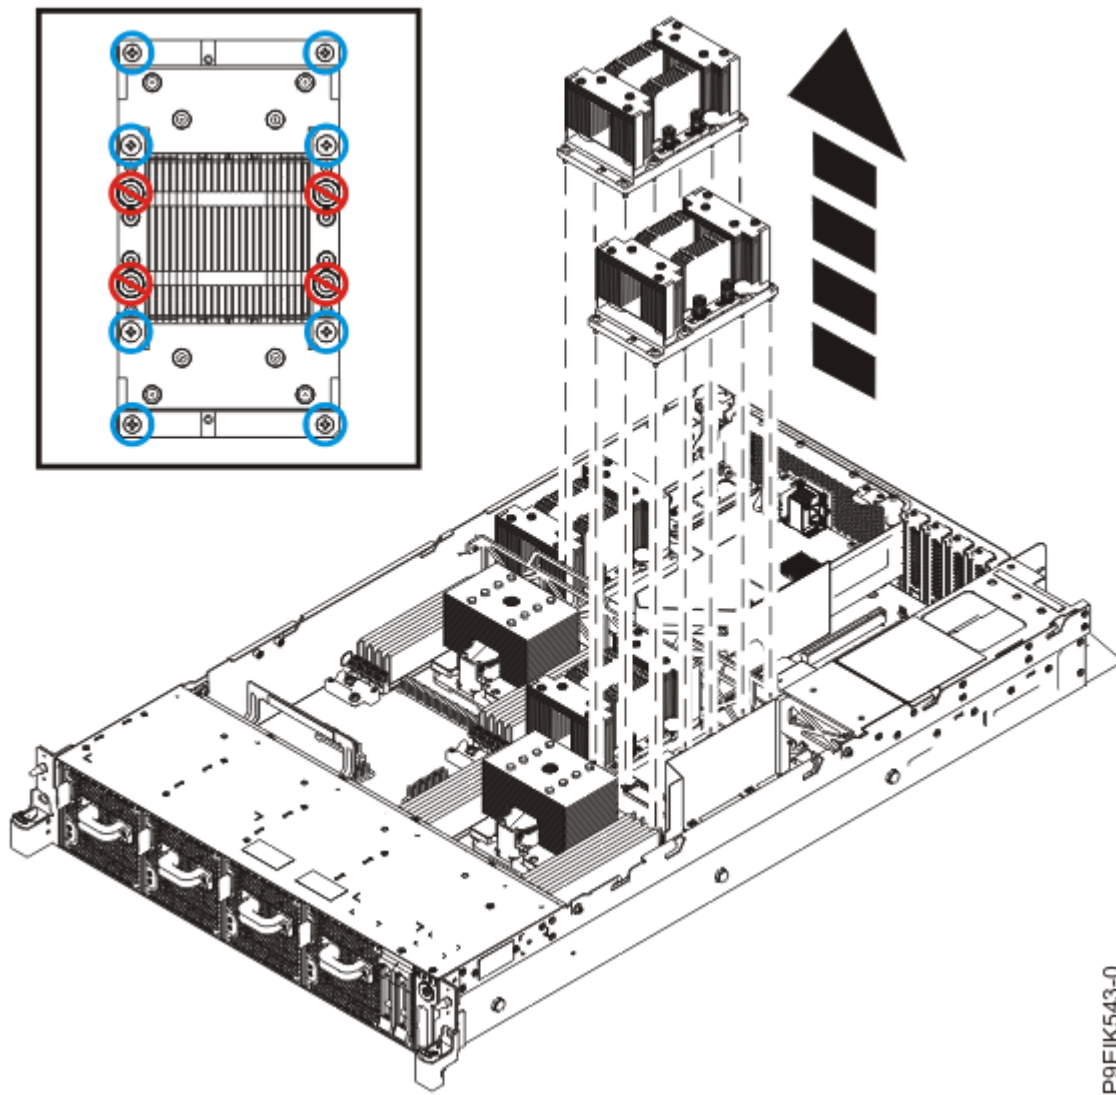

Figure 24. Remove eight GPU screws per GPU; do not loosen the four spring-loaded screws
3. For the GPU you are removing, remove the eight screws that are shown in Figure 24 on page 35.